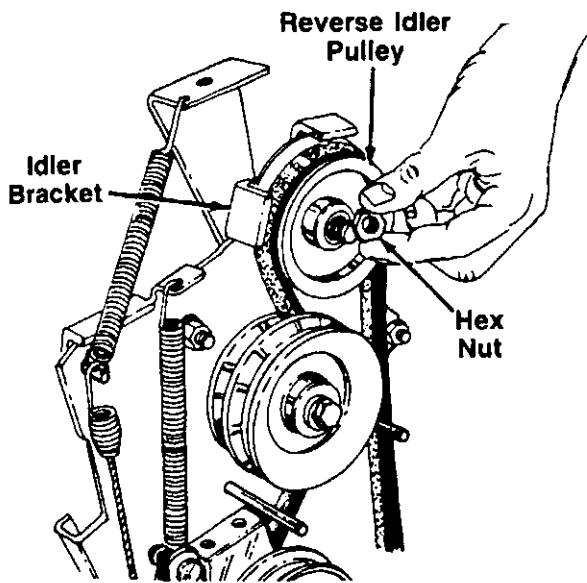

FIGURE 33.
2. Remove the hex nut which holds the reverse idler pulley. See figure 33.